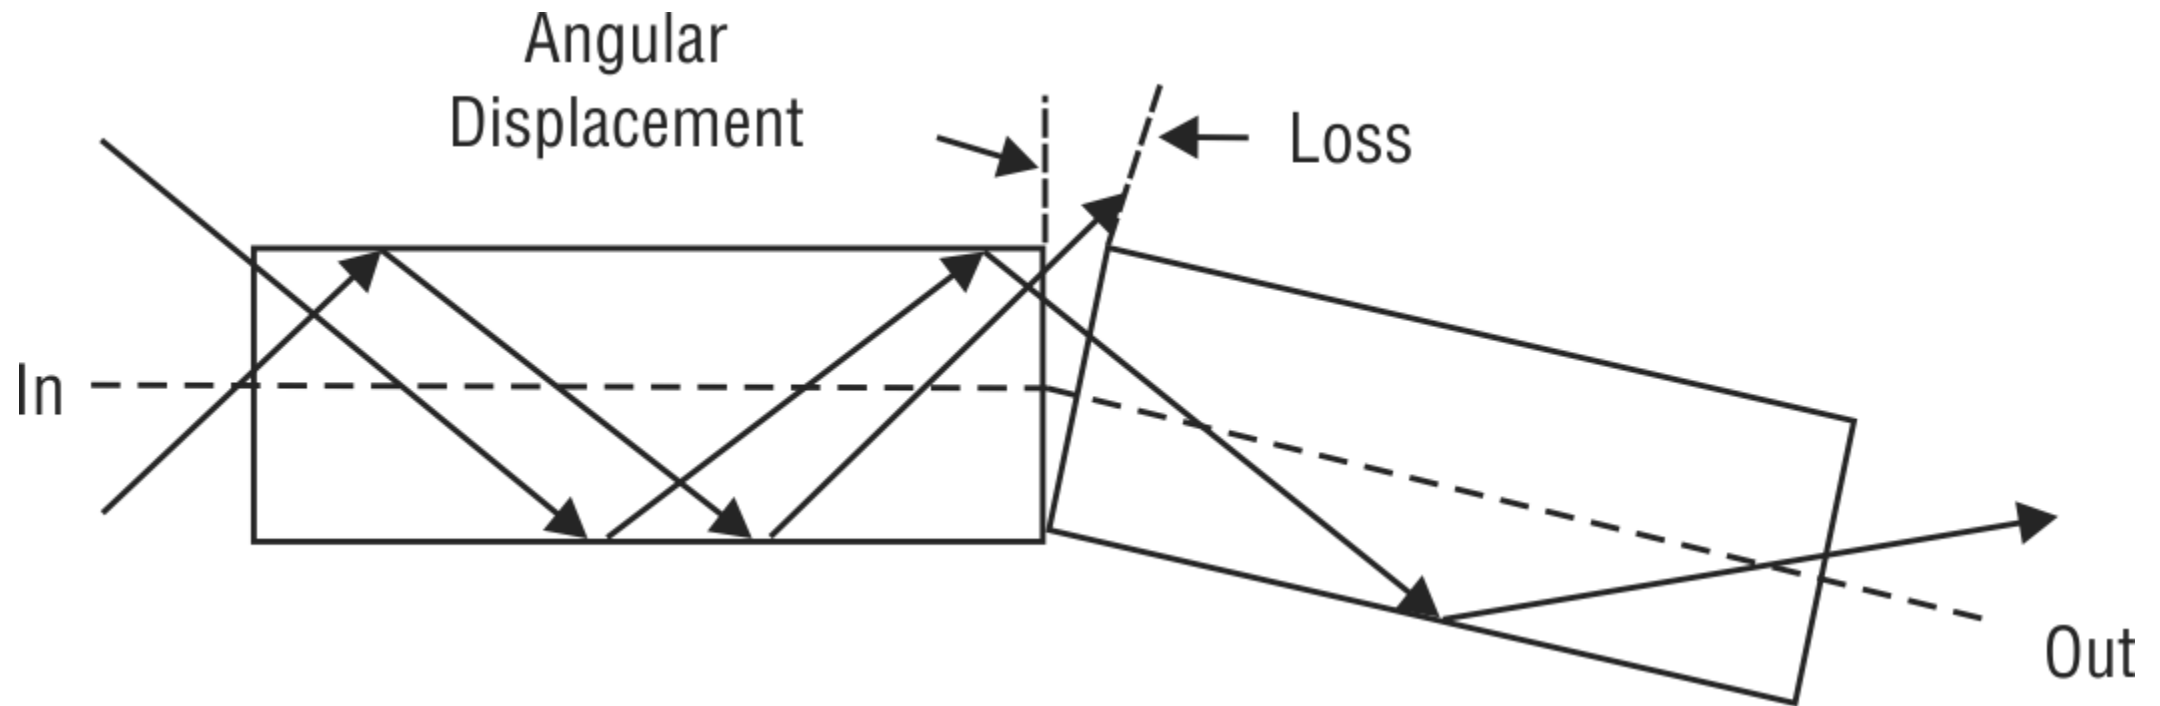

Fig. 28: Angular misalignment in optical fibers
- *Angular misalignment.* Angular misalignment or displacement is shown in Fig. 28.